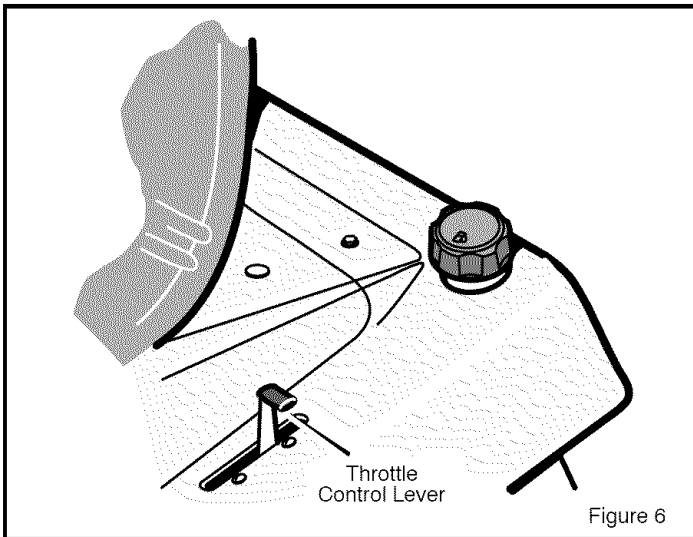

Figure 6
2. Move the **throttle control lever** to the SLOW position (see Figure 6).